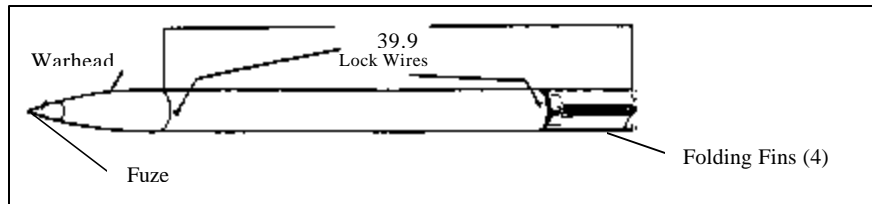

Figure 46. Aircraft rocket.
- (1) Military rockets consist of a warhead, a motor, a fuze, and a fin assembly. Rockets presently in use range from 1 inch to 34 inches in diameter. They can range in length from 1 foot to over 9 feet. Unexploded rockets present the same hazards as unexploded artillery projectiles, and the same precautions apply. They are stabilized in flight by fins, or canted nozzles, that are attached to the motor.
- (2) There is no standard shape to identify a rocket. Some rockets are shaped like artillery projectiles, with cylindrical bodies, ogival noses, and front and rear bourrelets. Other rockets have head assemblies that are cylindrical, tapering, concave, or convex, with a flat or a rounded nose. The warhead assembly is attached to the rocket motor, which is long, cylindrical, and has a set of fins attached at the end. Some motors may be smaller in diameter than the warhead. Figures 46 and 47 are examples of military rockets.